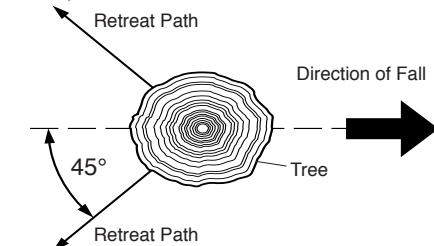

Figure 13 - Retreat Path From Tree
3. Plan and clear a retreat path before felling. Make retreat path opposite to planned direction of fall of tree and at 45° angle (see Figure 13).